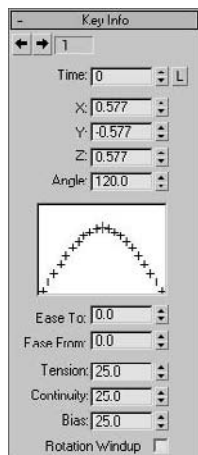

Figure 8.9
1. Select the square and open the Key Info rollout (Figure 8.9).